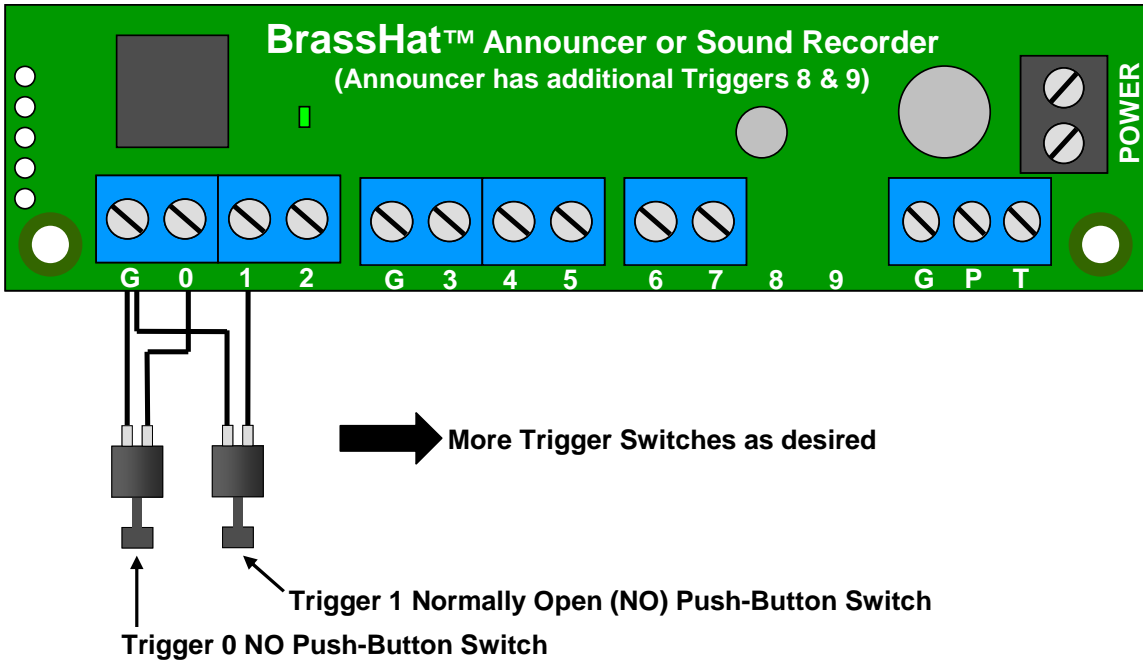

Figure 1: Push Button Switches for Trigger Inputs 0 & 1
Using Normally Open (NO) switches, simply connect one switch terminal to Ground (G) and the other terminal to the desired Trigger Input. **Figure 1** shows push button switches for Trigger Inputs 0 and 1.